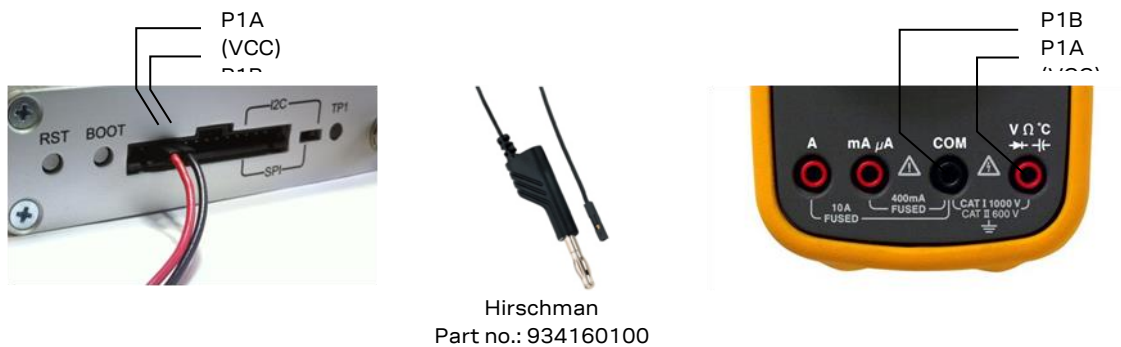

Figure 10: Example – tracking current measurement
1. Connect a mean reading voltmeter across P1A (VCC) and P1B of the front connector (see Figure 10).